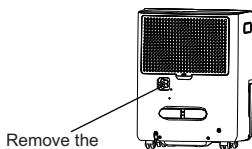
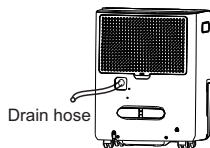

Fig.9
Fig.10
- Remove the plastic cover from the back drain outlet of the unit and set aside, then insert the drain hose through the drain outlet of the unit and lead the drain hose to the floor drain or a suitable drainage facility. (See Fig.9 and Fig.10)